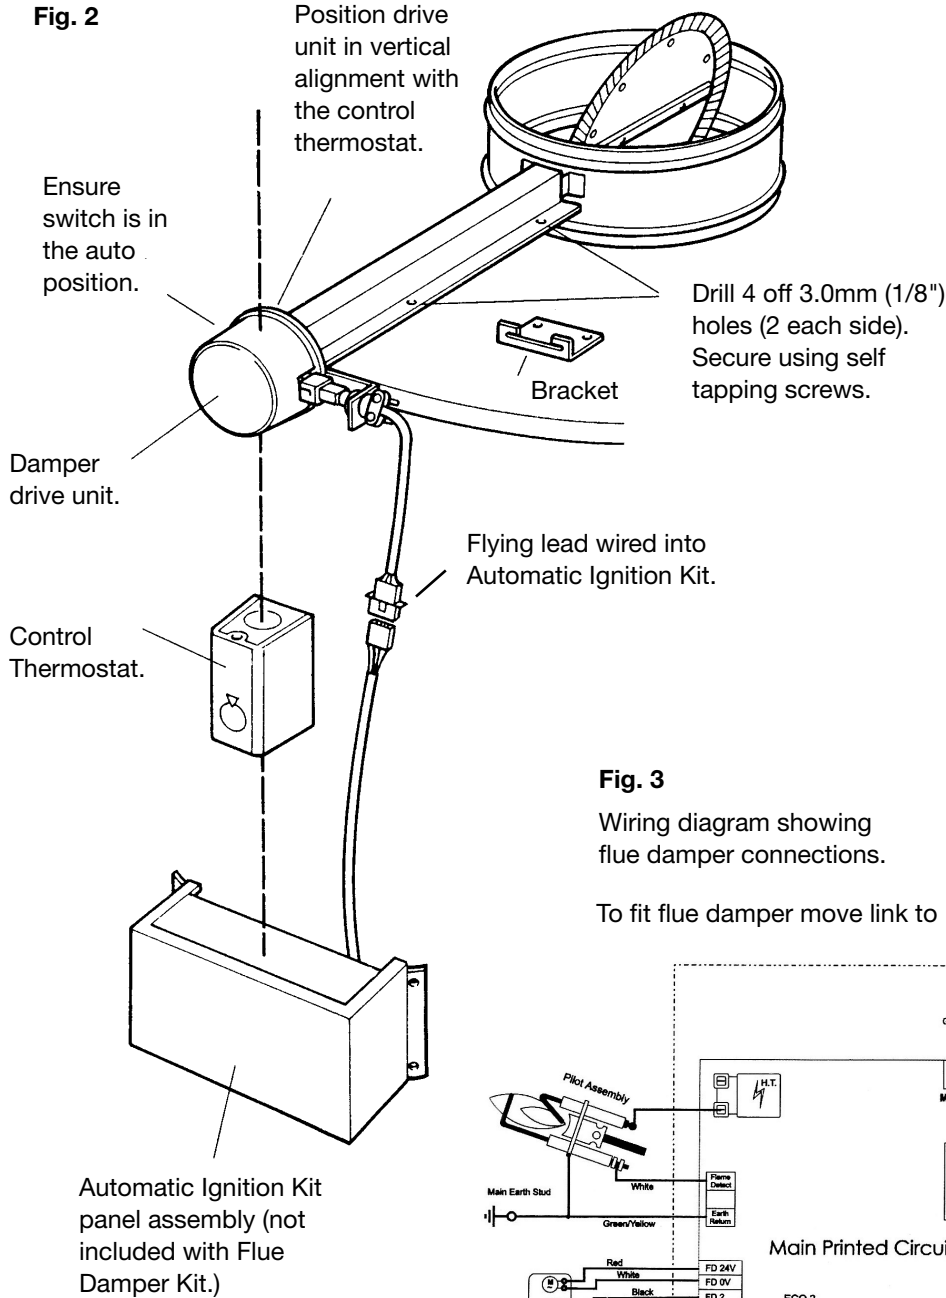

Fig. 3
6. Wire flying lead supplied into terminal locations in the auto ignition kit. (See wiring diagram Fig. 3).
8. Move flue damper link to ON position. (See wiring diagram Fig. 3).